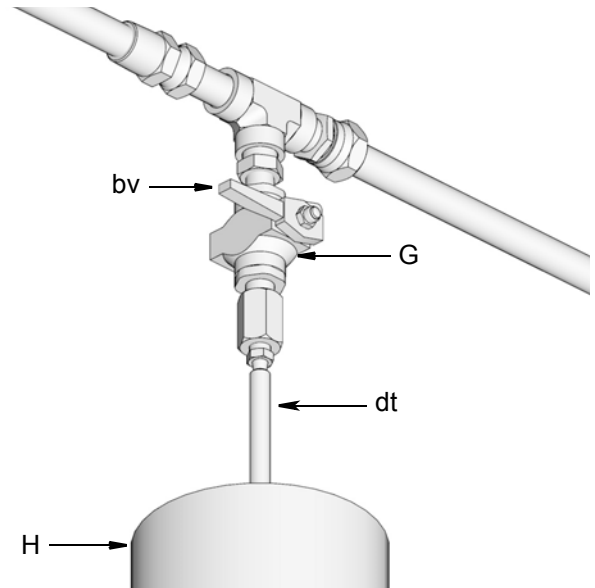

FIG. 11: In line installation shown
3. Turn off air supply to refill pump (P).
4. Relieve pressure between the remote filling station pump (P) and the Auto-Fill Shut Off (S):
- a. Open ball valve (bv) (FIG. 11). Pressure will be released and excess fluid will drain out of the drain tube (dt) and into the lubrication collection container (N).